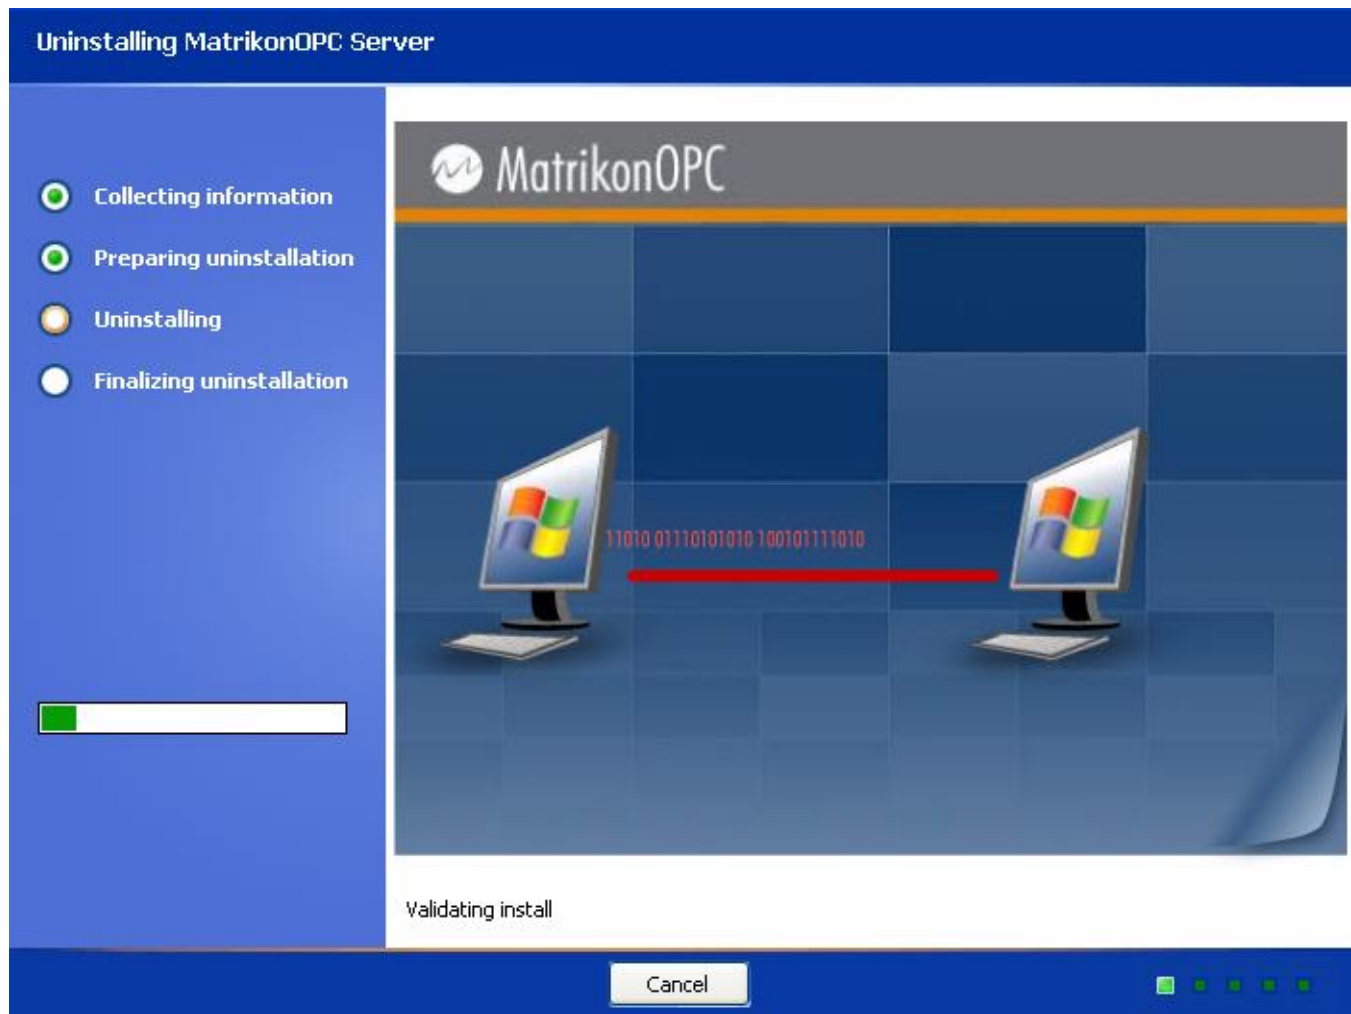

Figure 81 - Uninstalling MatrikonOPC Server for Mitsubishi PLCs Screen
10. The **Uninstalling MatrikonOPC Server for Mitsubishi PLCs** screen (Figure 81) appears and the un-install takes place.